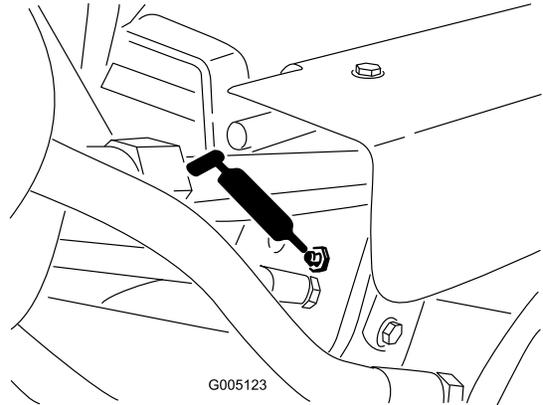

Figure 32
- Lift cylinders (3) (Figure 32)